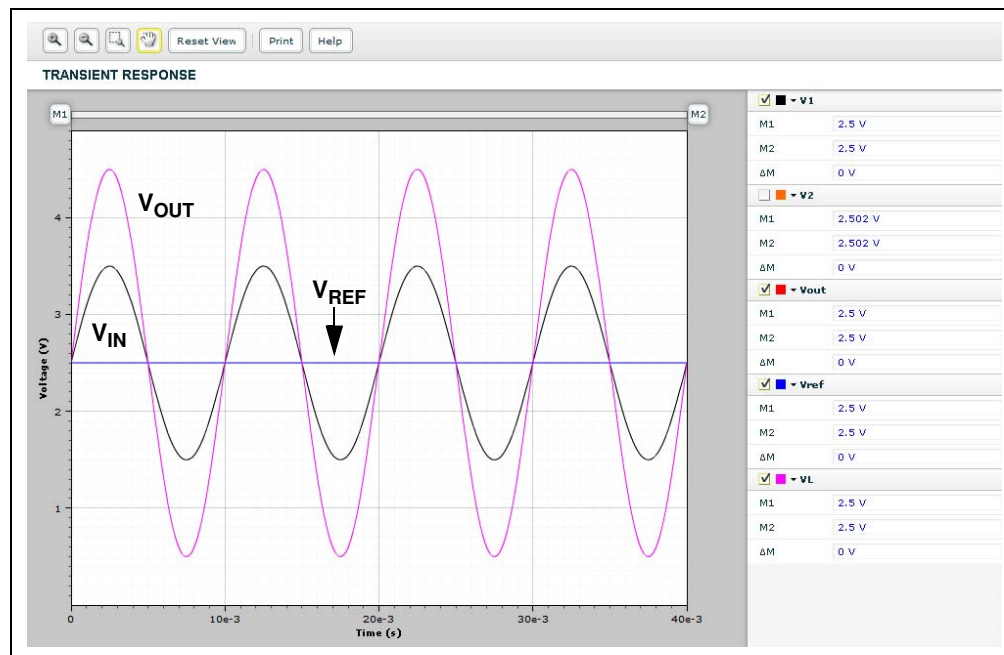

FIGURE 2-17: Simulated Sine Wave Response.
- The simulated sine wave response is shown in Figure 2-17. It is a sine wave signal with a frequency of 100.0 Hz, a peak-to-peak voltage of 4.0V and a center voltage of 2.5V